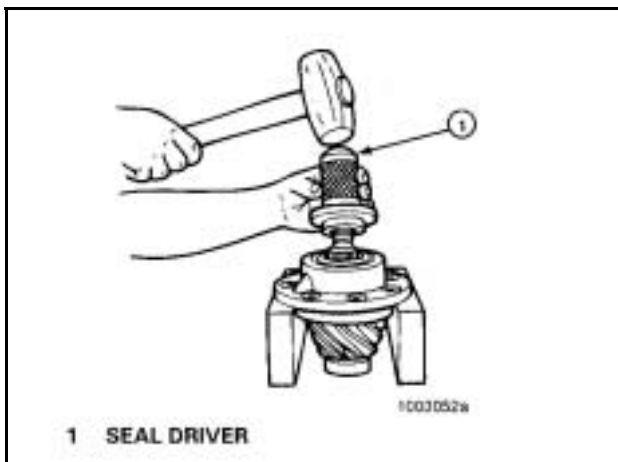

Figure 71
*If a press is not available, use a mallet and the sleeve or driver to install the seal. **Figure 71.***